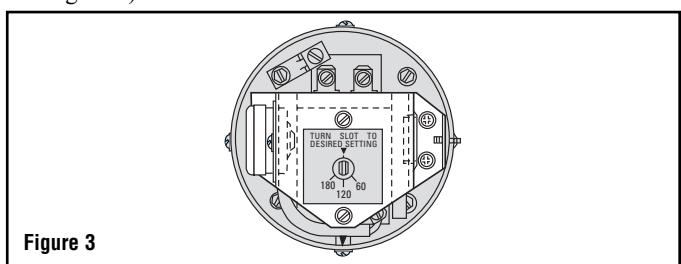

Figure 3
- To set thermostat, turn the slotted screw at top of thermostat counter-clockwise until flat side is facing terminals. This is the "OFF" position. Next, turn the slotted screw clockwise until slot in screw points to the desired temperature shown on scale. **Note:** Scale is marked in increments of 60°F. Replace terminal cover. (See Figure 3)